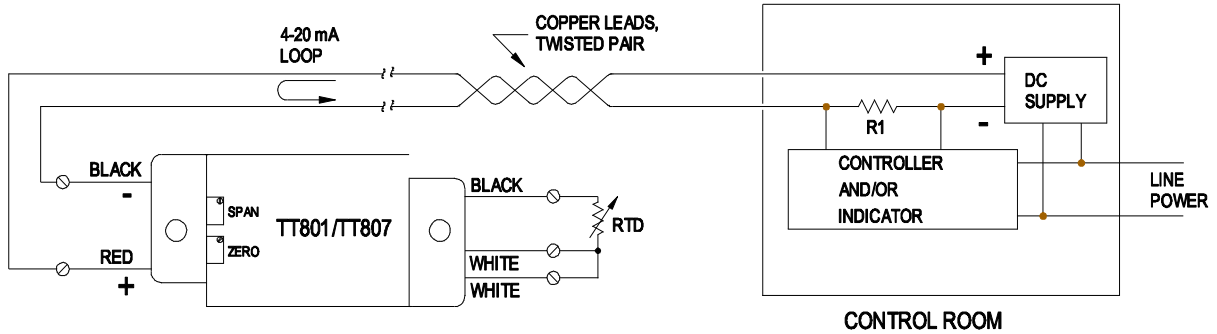

Figure 1
Using wirenuts, connect the Temptran as shown below (Figure 1), observing the \pm polarity of the current loop. Maximum DC supply voltage = 35 VDC. The RTD must be connected as shown or the transmitter will not function properly. Screw the Transmitter into a utility box near the RTD, in an area where the ambient temperature stays between -50 and 80 °C (-58 and 176 °F).
1. For 3 wire RTD version, connect the RTD's common-colored leads to the two White wires as shown below (Figure 1), then connect the remaining sensor lead to the black wire. If the sensor has only 2 leads, short the transmitter's white wires together and connect them to one wire of the sensor and black to the other wire. A 2-wire RTD is not polarity-sensitive.